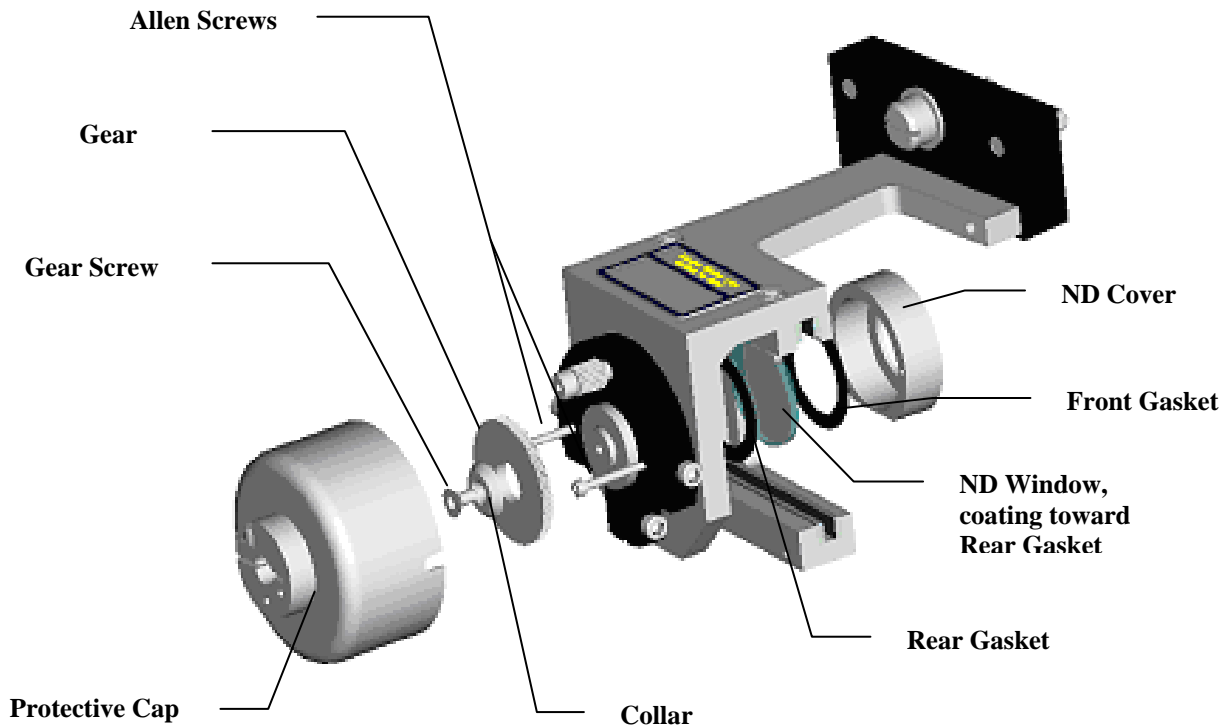

Figure 8-6
1. Loosen the cap screws and remove the cover that protects the Iris Adjustment Mechanism. See Figure 8-6.
2. Remove the gear screw, collar and gear. See Figure 8-6.
3. Remove the 2 Allen head screws holding the ND Cover. See Figure 8-6.
4. Remove the ND cover, front gasket, ND window and rear gasket. See Figure 8-6.
5. Re-assemble the rear gasket, new ND window, front gasket and ND cover as shown in Figure 8-6. **Note: The ND window must be installed with the coating side IN toward the rear gasket.**
6. Re-install the gear, collar and gear screw. See Figure 8-6.